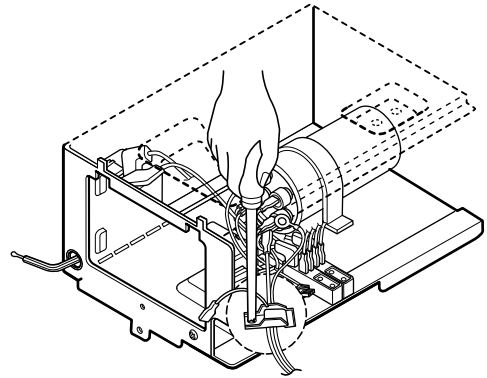

Figure 12
6. Pull the power cord. (See Fig. 12)